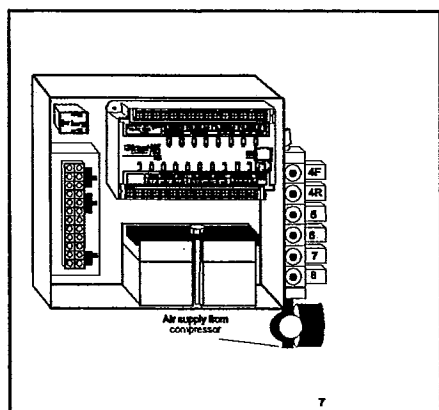

Fig. 1 D105, 6 Valve, Exhibit A & B
- 1) 6 valve for awnings with pneumatic Rafter arms; Fig. 1 and exhibits **A & B** or